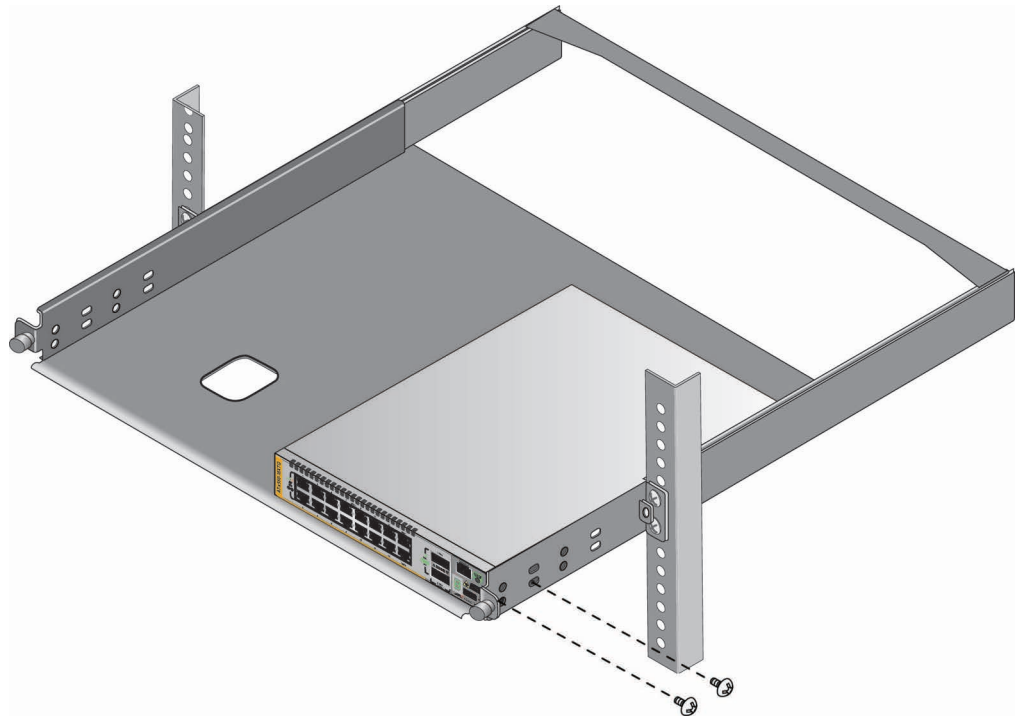

Figure 48. Securing the Switch to the AT-RKMT-J15 Bracket
8. Install two M4x6mm screws included with the switch to secure the switch to the bracket. Refer to Figure 48.